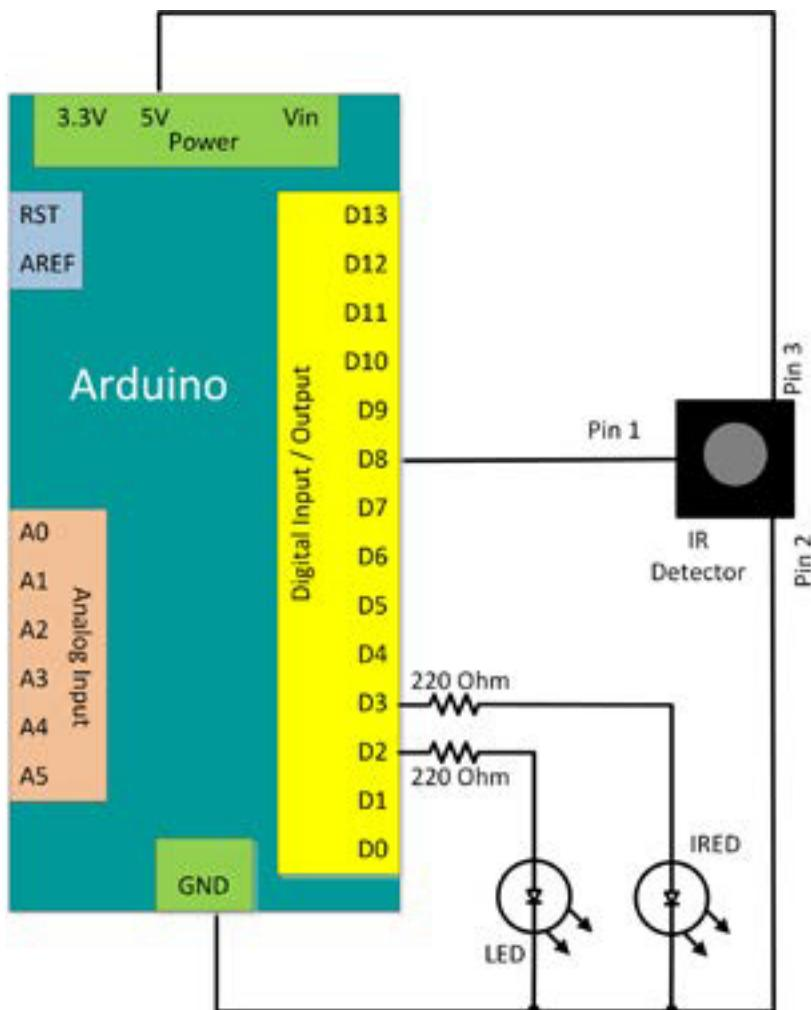

Figure 13-5. IR transmitter / receiver schematic
1. Using the Arduino™ Uno and bread-board, construct the circuit shown in Figures 13-5 and 13-6.